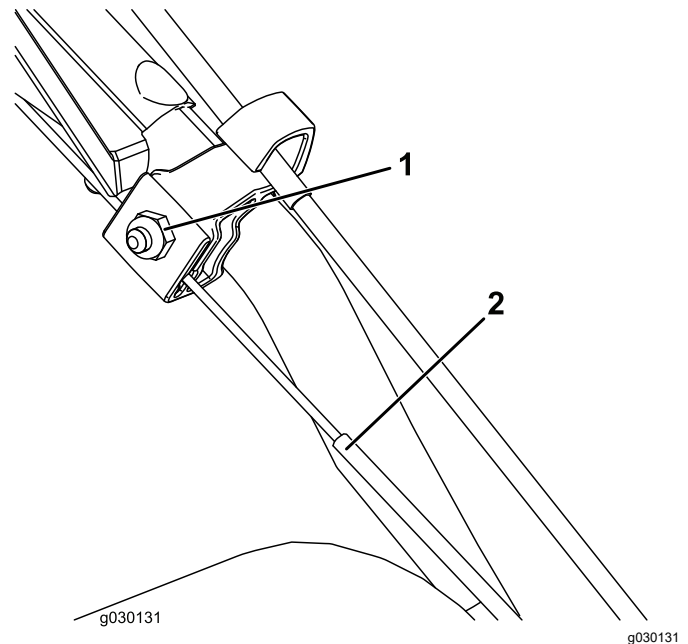

Figure 21
1. Loosen the nut on the upper cable clamp, but do not remove it (Figure 21).
2. Pull the cable down to remove most of the slack in the cable (Figure 21).
3. Tighten the nut (Figure 21).